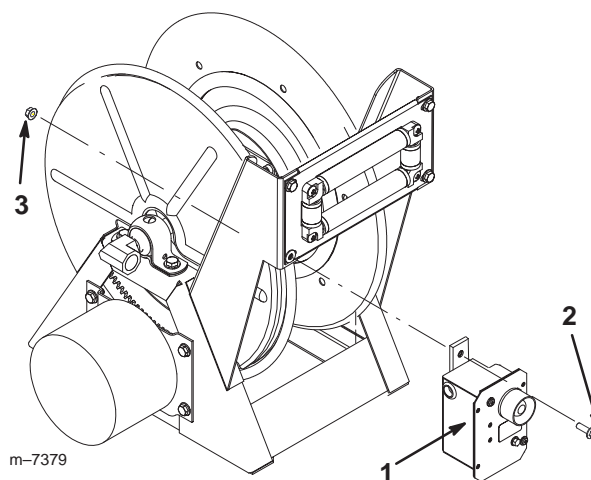

Figure 2
3. Remove and discard the bolt and nut from the lower inside roller support on the hose reel and install the electrical box in that hole (Fig. 2), using a flange-head bolt (5/16 x 1 inch) and a flange nut (5/16 inch).